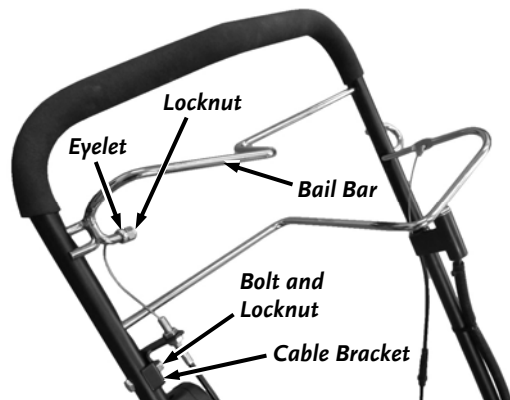

Figure 33
5. Remove the Locknut that is securing the Drive Cable Eyelet to the Bail Bar using a 7/16" Wrench and remove the Eyelet from the Bail Bar (**Figure 33**).
18. Reattach the Cable Bracket to the Handlebar using two 7/16" Wrenches (**Figure 33**).